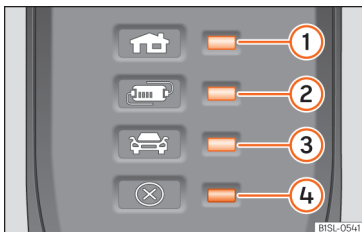

Fig. 67 On the charging cable for power sockets: Indicator lamps on the protection device.
»» Fig. 67:
The electronic protection device »» Fig. 67 ensures that the charging connector does not receive current until it is plugged in to the vehicle's charging connector.
One or more control lamps »» Fig. 67 ①, ② or ③ light up green.
Display »» Fig. 67	Meaning
①, ④ flashing	The housing connector has overheated.
②, ④ flashing	The protection device has overheated.
If the charging process continues with a lower current, both the operating indicator and the warning lamp »» Fig. 67 ④ flash red.
- If it disconnects again, or the charging current reduces and the cause does not seem to be exposure to an external heat source, make sure that the green control lamp is flashing »» Fig. 67. To check the charging cable, please visit a SEAT dealer. Get an establishment that specialises in electrical installations to check the infrastructure connection.
If the red warning light ④ flashes or turns on without one of the indicator lamps »» Fig. 67 ①, ② or ③ also turning on continuously on the status indicator, there is a fault.
Display >>> Fig. 67	Meaning